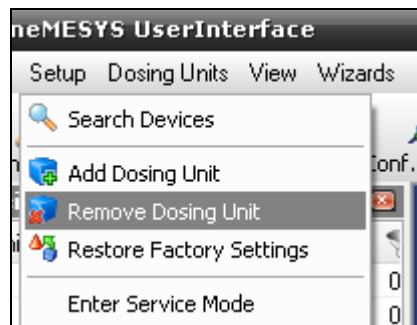

Figure 16 - Remove dosing unit menu item
- (2) In the Setup menu, click on "Remove dosing unit" (Figure 16) to remove the dosing unit from your syringe pump system.